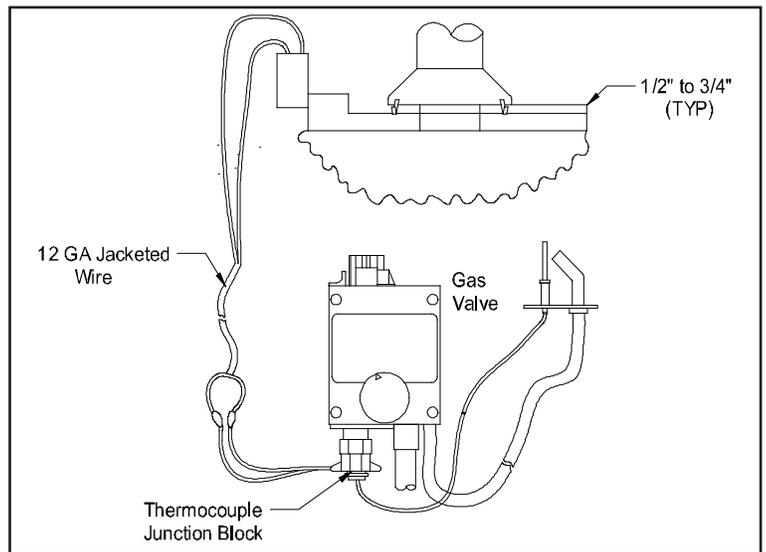
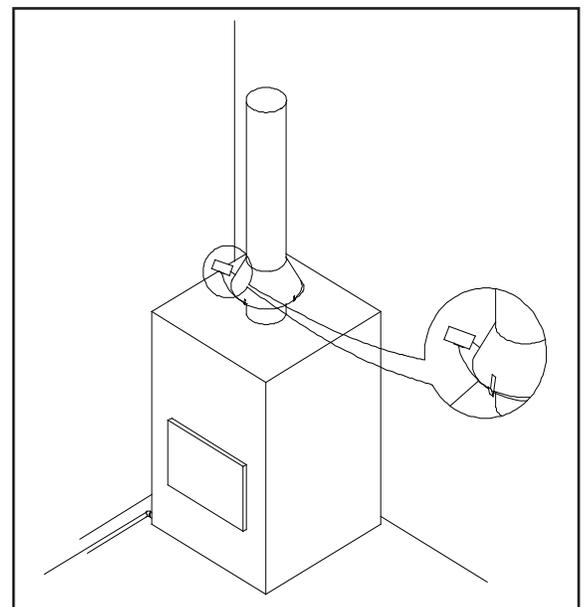

Figure 1
Figure 2
1. Mount the switch box onto the appliance 2" to 3" away from the draft hood using two sheet metal screws. The probe should be directed towards the draft hood. (See Figure 1) An alternative mounting method is to mount the switch directly onto the draft hood. (See Figure 2)